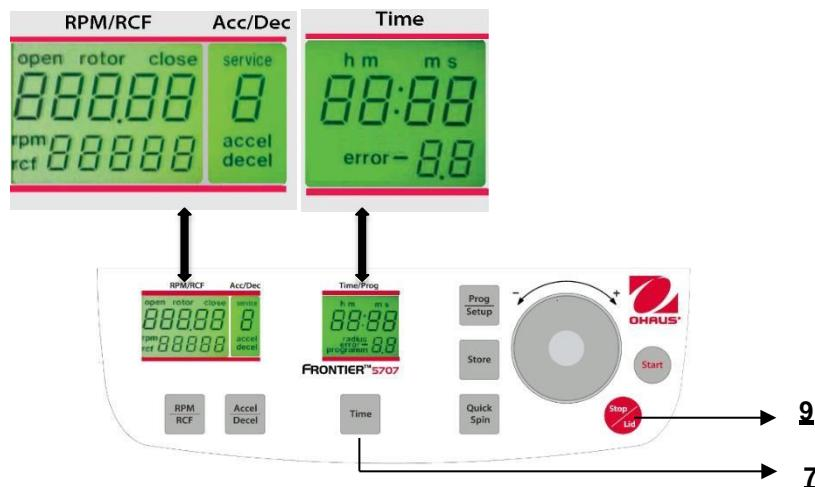

Figure. 27
While the centrifuge is turned off, press simultaneously the keys "Time" (7) and "Stop/Lid" (9) and turn on the main switch of the centrifuge. Now release both keys and as a result a display test is executed for approx. 5 seconds. All indicators will appear at the same time (See figure 27).